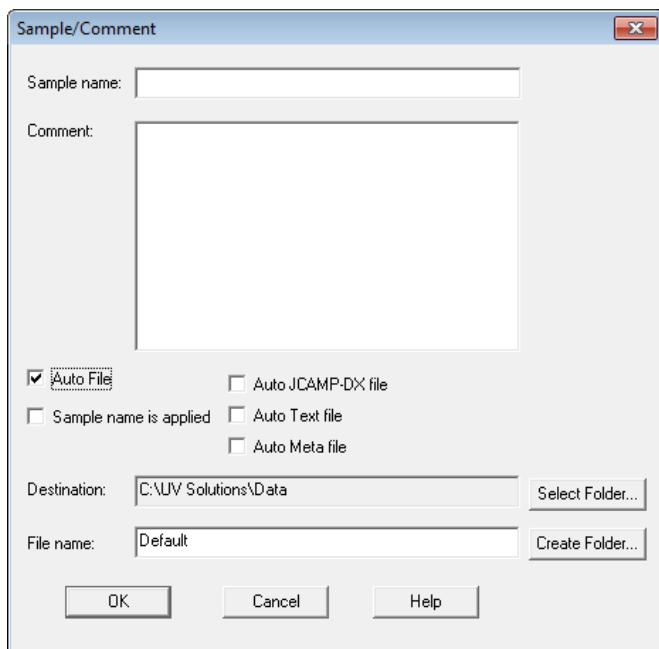

Fig. 2-12
- (1) Click the  (Sample/Comment) button, and the window shown in Fig. 2-12 will then appear.